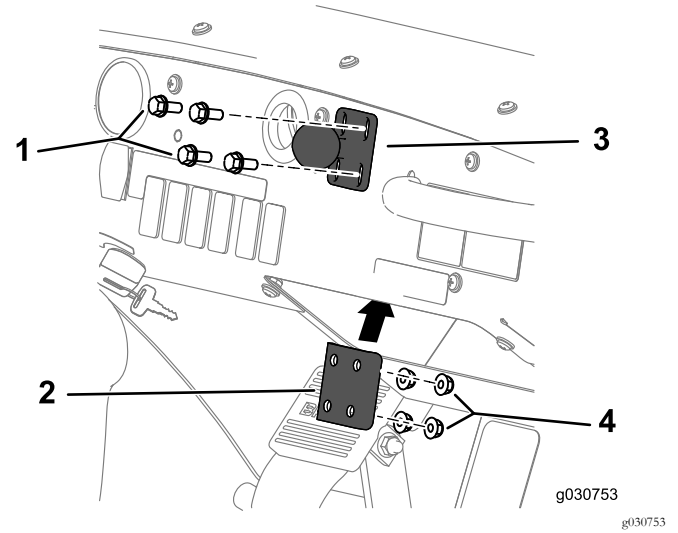

Figure 152
- Assemble the ball-pivot mount to the dash with the 4 bolts (1/4 x 1-1/2 inches), stiffener plate, and flange locknut (1/4 inch) as shown in Figure 152.